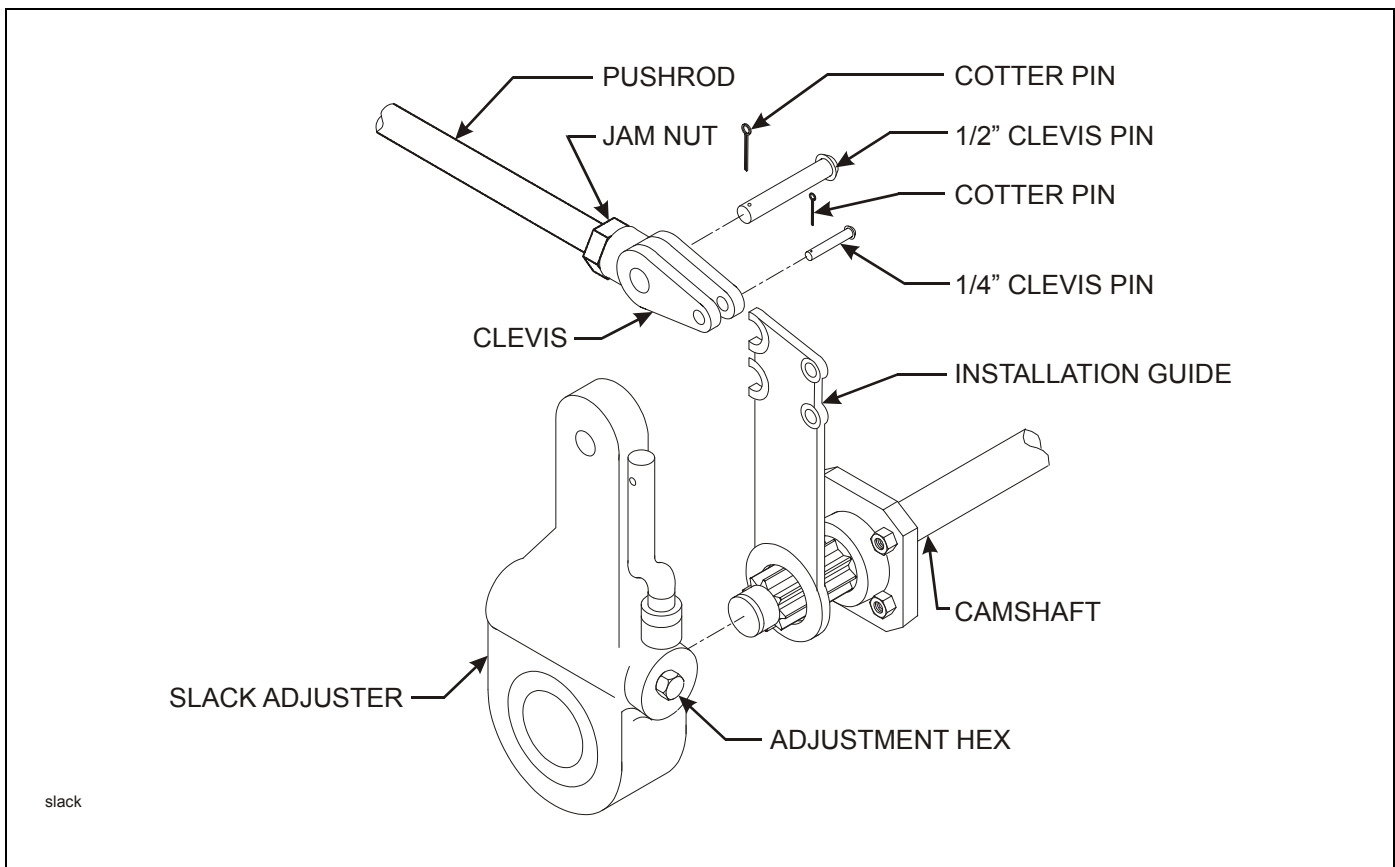

Figure 4-14: Slack Adjuster
4. Disconnect the slack adjuster from the connecting rod by removing the clevis pin (**See Figure 4-14.**)
4. Remount the brake chamber on the axle brackets and reconnect the air service hoses and the slack adjuster connecting rod (**See Figure 4-14.**)
2. Check that the push rod is fully retracted, apply air to release spring brake **(See Figure 4-14.)**
3. Remove the existing slack adjuster and clevis - DO NOT REMOVE EXISTING JAM NUT **(See Figure 4-14.)**